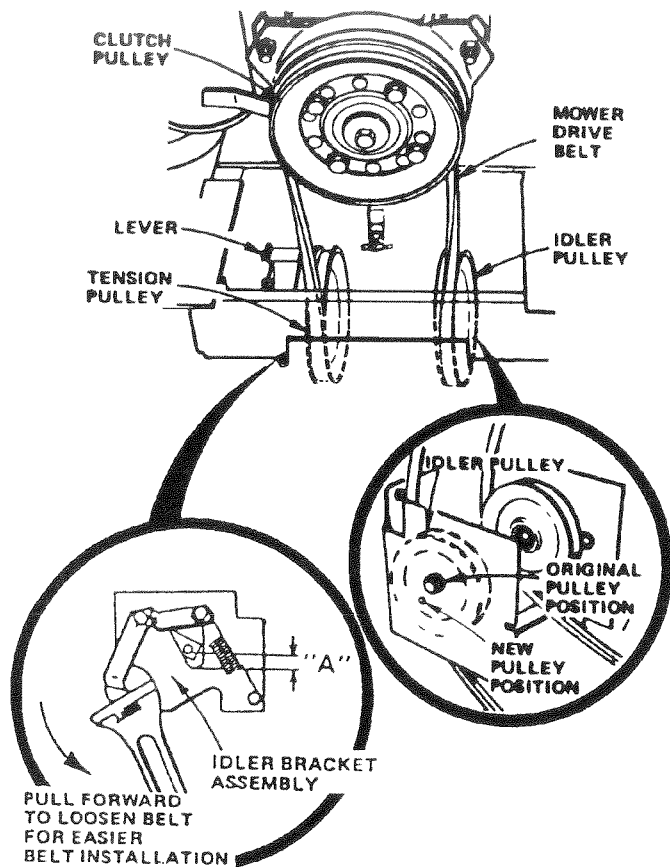

FIGURE 37
Place Mower Drive Belt over Clutch Pulley and under Idler Pulley and Tension Pulley (Fig. 37). NOTE: PULL LEVER UP TO SWING TENSION PULLEY FOR BELT CLEARANCE. Make sure narrow "V" side of Belt is engaged with each pulley.
2. If dimension "A" on Idler Bracket Assembly measures 1/4" or less, Mower Drive Belt must be adjusted (Fig. 37 - Inset).
4. Remove Bolt, Flat Washers, Lockwasher and Nut from Idler Pulley (Fig. 37 - Inset) (original position).
5. Place V-Belt and Idler Pulley in "NEW" Pulley position (Fig. 37 - Inset). Replace Bolt, Flat Washers, Lockwasher and Nut. Tighten securely.